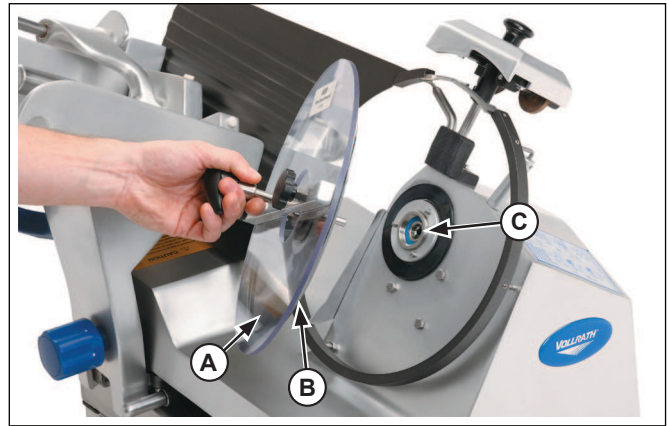

Figure 6. Tray Knob, Stud and Product Tray
6. Unscrew the safe blade removal tool (C) while holding the crossbar (E).
7. Lift the safe blade removal tool (A) and blade (B). See Figure 6.
8. Clean the back side of the blade (B) and other exposed parts of the equipment. Clean the equipment with a damp cloth and mild soap. Do not use abrasive detergent or cleaning materials as they can damage the finish of the slicer. Remember that the blade is extremely sharp.
10. Set the safe blade removal tool (A) and blade (B) into the center hub (C). See Figure 6.
11. Rotate the safe blade removal tool (A) and blade until it fits onto the hub pins.